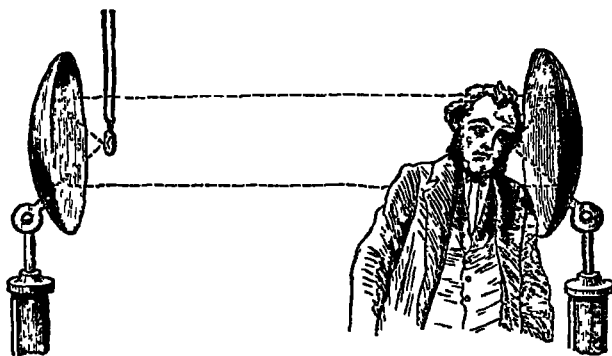

FIG 53
By using two large concave reflectors, we can further illustrate the reflection of sound (fig 53) When a watch is placed at the focus of one mirror, a person can hear the ticks by placing his ear at the focus of the other mirror, although the distance may be such that when the second mirror is removed he is unable to hear the ticks The sound-waves from the watch strike the near mirror, are reflected parallel to the principal axis, and after meeting the second mirror are again reflected to its focus This is better demonstrated by substituting the taps for the ticks of the watch, and the sensitive flame for the ear
**Whispering-galleries**—We can easily understand that if a gallery be of a certain shape, the whisper of a person in one part may be quite audible to another person beyond ordinary range of sound. Regard the two concave reflectors in fig 53 as the opposite sides of a semicircular gallery.